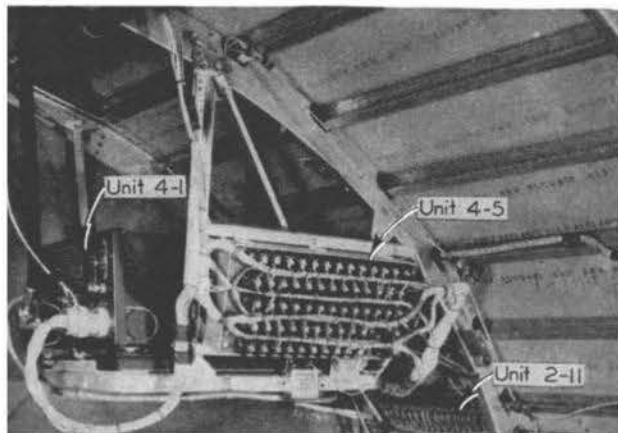

Figure 149. Compass Receiver, Relay Box and Junction Panel
- 4-5** One BK-22-A Relay terminal panel in junction panel box alongside of radio receiver, above bomb bay. Figure 149.
1. Before turning on the radio compass, check the battery voltage and polarity from terminal (61) on the Relay BK-22-A terminal panel to ground (See Figure 149). The inverters should be checked to see that their supply of input voltage is up to rated requirement. If the supply voltage is 24-28 volts, the link between terminals (59) and (60) on the relay terminal panel should be removed.
- Adjust "AUDIO" (6), Figure 149, or Interphone volume control (6), (Figure 24), for satisfactory headset level.